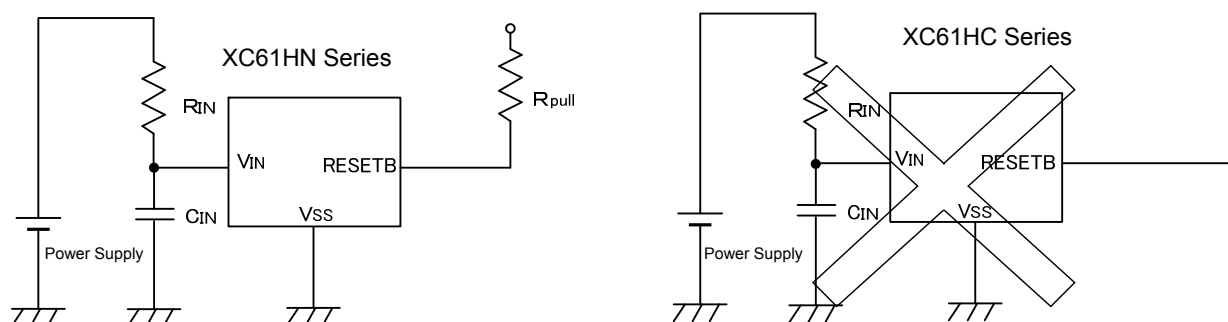

Figure 1 Use of input resistor  $R_{IN}$
2. When a resistor is connected between the  $V_{IN}$  pin and the power supply with CMOS output configurations, irregular oscillation may occur as a result of voltage drops at  $R_{IN}$  if load current ( $I_{OUT}$ ) exists. It is therefore recommend that no resistor be added. (refer to Figure 1 below)
4. If a resistor ( $R_{IN}$ ) must be used, then please use with as small a level of input impedance as possible in order to control the occurrences of oscillation as described above. Further, please ensure that  $R_{IN}$  is less than  $10k\Omega$  and that  $C_{IN}$  is more than  $0.1\mu F$ , please test with the actual device. However, N-ch open drain output only. (Figure 1).